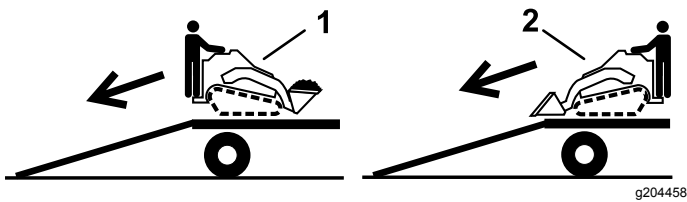

Figure 37
2. Unload the machine from the trailer with the heavy end up the ramp, carrying loads low (Figure 37).